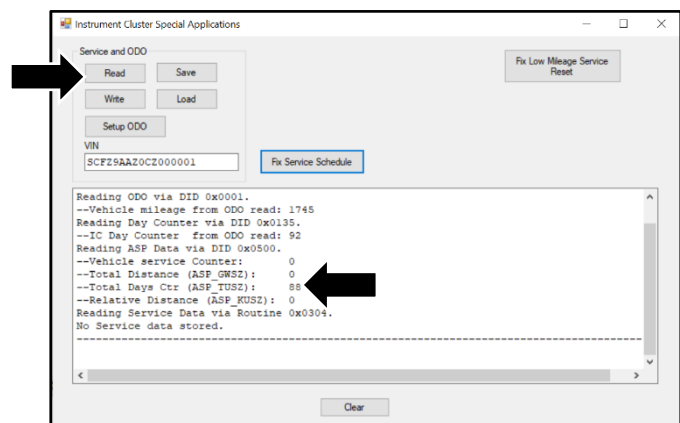

Figure 3
6. Make a note of the "Total Days Ctr" then click "Read" (refer to Figure 3).